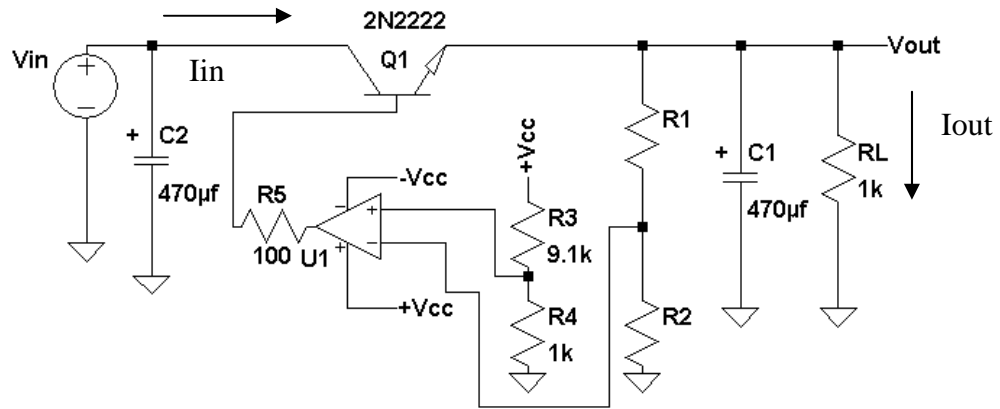
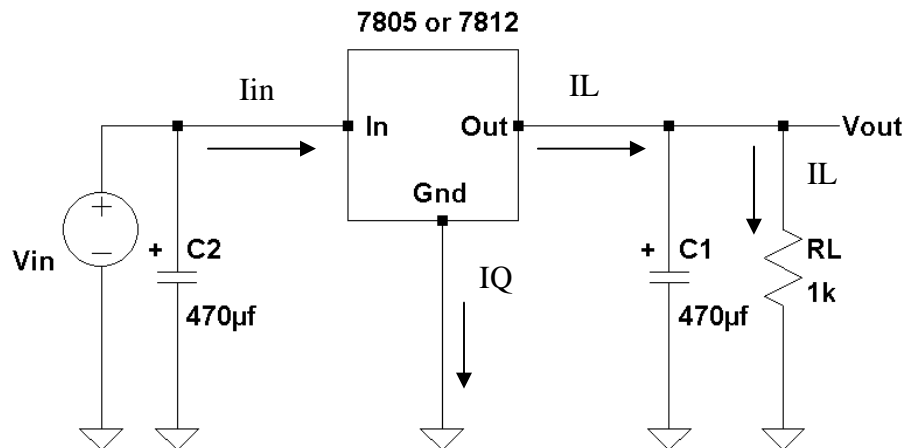
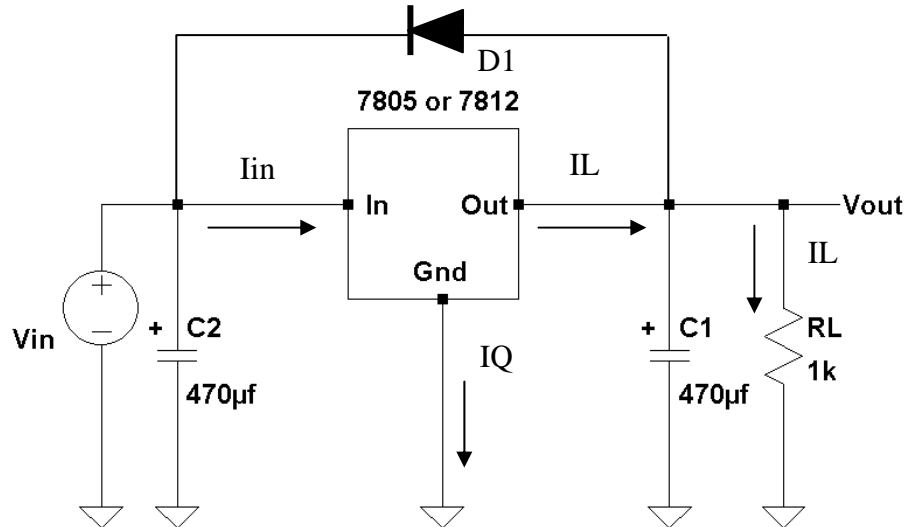

Figure 2: An example of a linear regulator.
Figure 3: An example of a three terminal linear voltage regulator.
Figure 4: An example of a linear voltage regulator with protection.
Using the simulation package of your choice in which you are the most familiar with: Multisim, Workbench or LTSpice IV simulate the linear regulator of Figure 2.
Figure 2 gives the circuit diagram for a linear regulator. This regulator uses a 2N2222 transistor and an op-amp to perform the output regulation. It is based upon the requirement that the op-amp will try to adjust its output so as to keep its inputs, V^+ and V^- , equal. The voltage at the V^+ terminal is
Here's how the regulator in Figure 2 maintains a constant voltage at V_{out} . Assume V_{out} drops below its regulated voltage given by Equation (4) or (5). Then the V^- terminal voltage will be less than the V^+ . Since the voltage output of the op-amp is $A_{od} (V^+ - V^-)$, the voltage output from the op-amp will increase in
The regulator of Figure 2 is a simple regulator with no short circuit or thermal protection. The linear regulator of Figure 2 is available in a three terminal part with both thermal and short circuit protection. Figure 3 gives the circuit diagram for this regulator. One set of linear regulators that are commonly used is the 78XX three terminal linear regulator family, where XX gives the output voltage of the regulator. Both the input and output voltages of these regulators are positive. For example, a 7805 voltage regulator produces an output voltage +5 volts. For negative output voltages, the 79XX regulators are available.
There are several items that will destroy one of these three-terminal regulators even if these parts are correctly installed in the circuit diagram of Figure 3 and the maximum rating are adhere to. The first is applying the wrong polarity voltage at the input. The second is having V_{out} be greater than V_{in} . This can occur if $C1 > C2$ and the energy storage in the output is greater than the energy storage in the input. This commonly occurs during power off if $C1 > C2$. The input to regulator will discharge toward zero volts faster than the output. Figure 4 shows a solution to protecting the regulator should V_{out} become greater than V_{in} . Under normal use, $V_{in} > V_{out}$, and the diode is reversed biased. Should V_{out} become greater than V_{in} , the diode is forward biased preventing any current flowing into the regulators from its output.
1. Build the linear regulator of Figure 2.
1. Build this linear regulator circuit of Figure 3 using the 7805 regulator and a 1000 ohm resistor for R_L . Take note of the polarity of the two electrolytic capacitors. Double check your wiring.